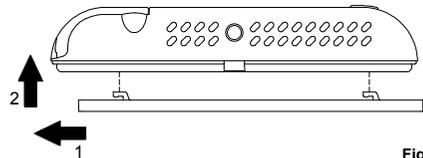

Fig. 3
1. Release the plate attached to the thermostat base by pushing it to the left, in this way releasing the teeth indicated in Fig. 3.